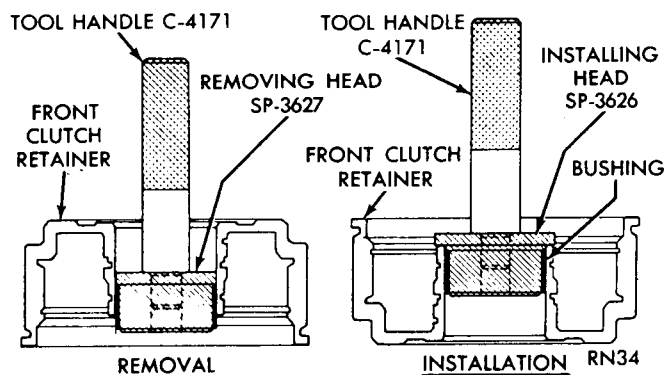

Fig. 20—Replace Front Clutch Retainer Bushing
(1) Lay clutch retainer (open end down) on a clean, smooth surface and place removing head Tool SP-3627 in the bushing (Fig. 20). Install handle Tool C-4171 in removing head.
(2) Drive bushing straight down and out of clutch retainer bore. Be careful not to cock tool in the bore.
(3) Lay clutch retainer (open end up) on a clean, smooth surface. Slide a new bushing on installing head Tool SP-3626, and start them in clutch retainer bore.
(4) Install handle in installing head. Drive bushing into clutch retainer until tool bottoms.
(5) Thoroughly clean clutch retainer before assembly and installation.